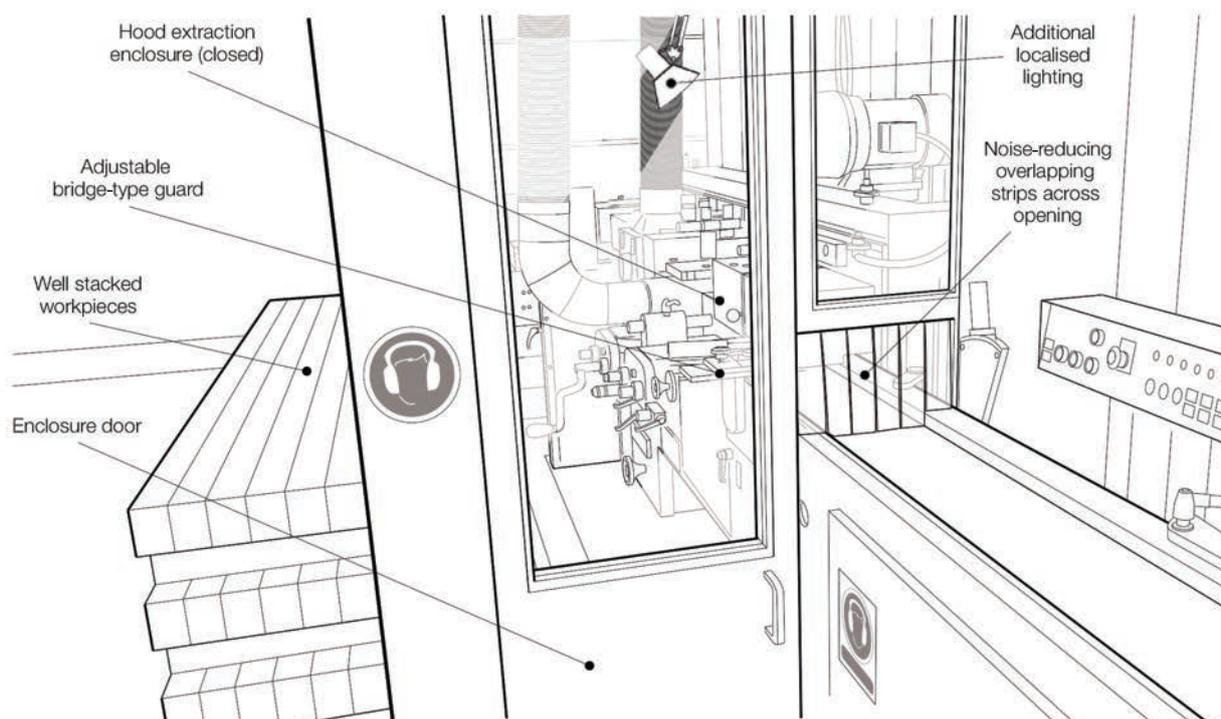

Figure 2 Older machine with wooden box-type enclosure
- an adjustable bridge-type guard, similar to that used on a hand-fed surface planer, that covers the bottom horizontal heads (see Figure 2).
Older machines were often supplied without an enclosure and you should build a 'wooden box'-type enclosure around them (see Figure 2). These are normally fitted with simple locks and bolts that do not prevent access to the enclosure with the machine running. Employees should therefore be trained and instructed to operate the brake and stop the machine before entering. In some cases, door interlocks linked to the braking may be beneficial, but this will depend on the machine's characteristics and system of work that must be used with it, particularly for setting – see 'Adjustment, setting and jointing'.
Stack unmachined and finished workpieces safely, in a position that allows easy feeding to and from the machine (see Figure 2). Use suitable workpiece supports where necessary.
Make sure that there is good general lighting. Use extra localised lighting if necessary to illuminate the cutting areas (see Figure 2).
Full noise enclosures (Figure 2) will only be effective if: